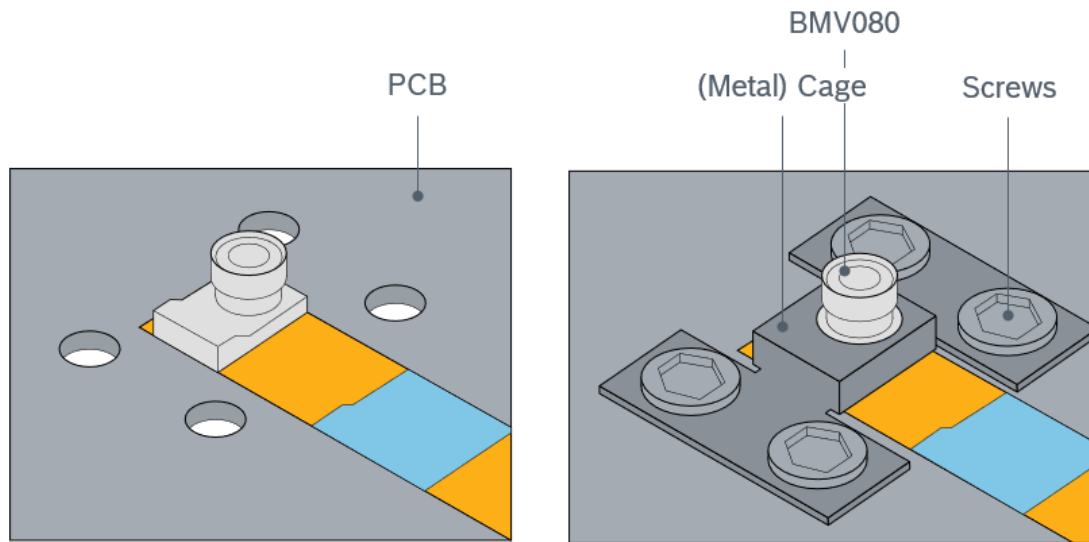

Figure 4: Mounting example
- The sensor can be mounted directly on the host PCB working simultaneously as a mechanical fixation and thermal connection, as shown in Figure 4 using a mechanical cage system